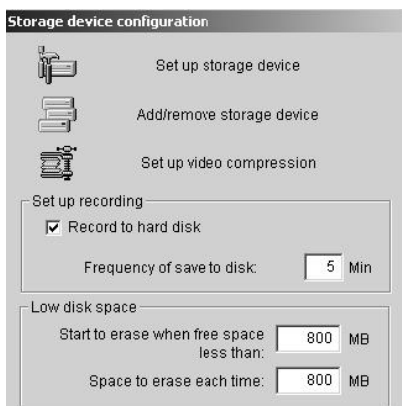

Fig. 5-13
- Click  to set recorder parameters. (See Fig. 5-13)